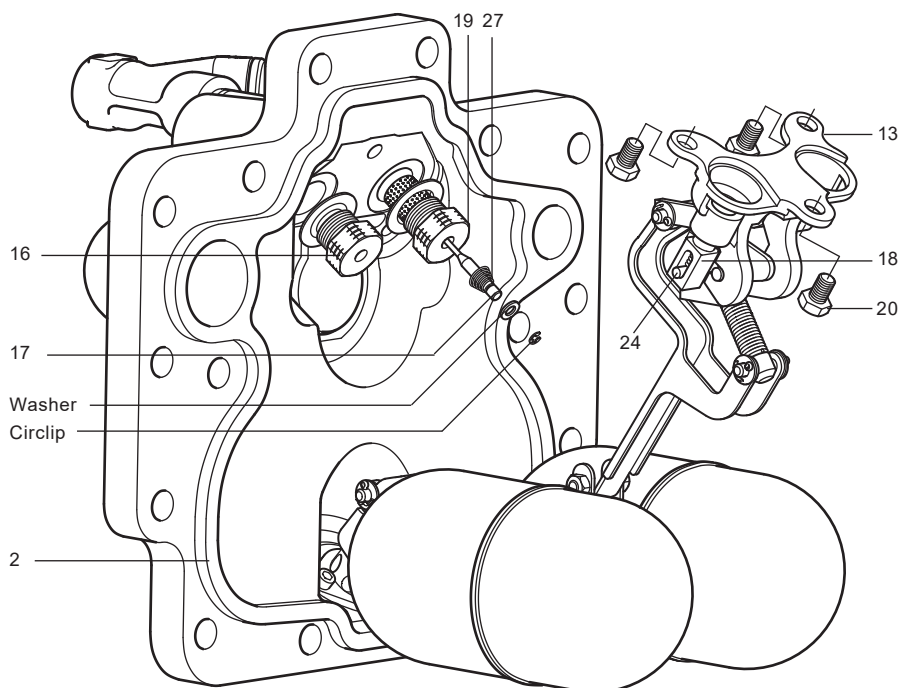

Fig. 27 APT14 shown
3. Carefully remove the circlip, washer and the inlet valve spring (item 27) from the end of the steam inlet valve (item 17).
4. Remove the three M8 bolts (items 20) using the 13 mm A/F socket.
9. Insert the replacement steam valve assembly (item 16 and item 17) according to Figure 27.